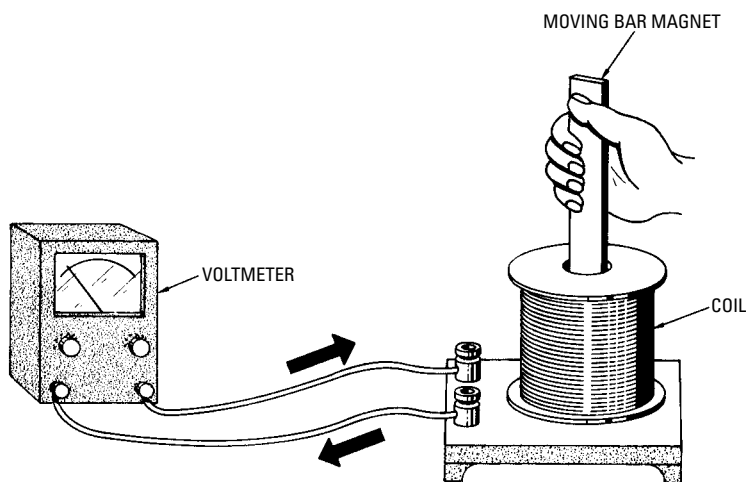
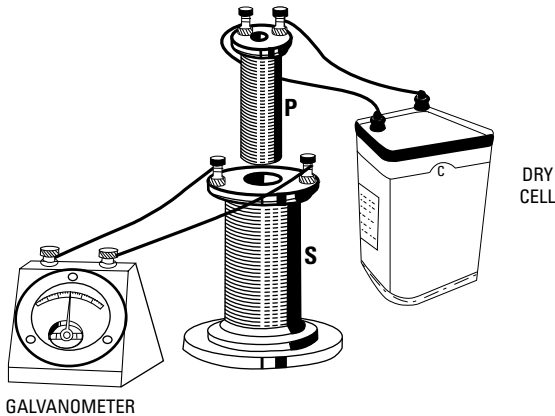

Figure 5-1 An example of electromagnetic induction.
Figure 5-8 A moving electromagnet generates a current.
When a permanent magnet is inserted into a coil, as shown in Figure 5-1, the voltmeter deflects. In other words, the changing magnetic field in the coil *induces* a voltage in the coil winding. When the permanent magnet is withdrawn from the coil, a voltage of opposite polarity is induced in the coiled winding. Note that if the permanent magnet is motionless in the coil, there is no induced voltage. Note also that when the magnet is moved faster, a greater voltage is induced.
The amount of voltage that is induced in a moving conductor depends on how fast the conductor cuts lines of magnetic force. If a conductor moves at a speed such that it cuts 10^8 lines of force per second, there will be 1 volt induced in the conductor. Of course, if we use a number of conductors, the induced voltage will be multiplied by the number of conductors. For example, if the coil in Figure 5-1
is moved into or out of a coil, as shown in Figure 5-1, it follows that an electromagnet can be substituted for the bar magnet, as depicted in Figure 5-8. It also follows that we can place the electromagnet into the coil and induce a current in the coil by opening and closing the circuit of the electromagnet. *This is an example of transformer action.* A transformer has two windings, called the *primary* (P) and the *secondary* (S).